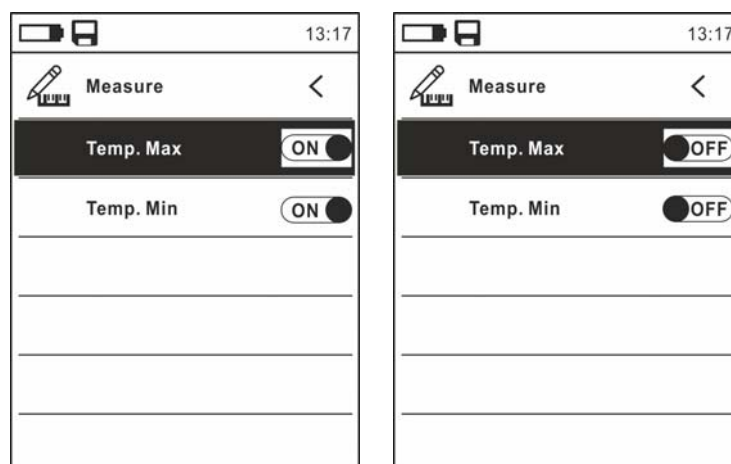

Fig. 11: Measurement Menu
9. Select item "Measure" and press key or **▶** to enable activation/deactivation of the cursors associated with the "hottest" or "coldest" spots in the thermographic image (see Fig. 11).